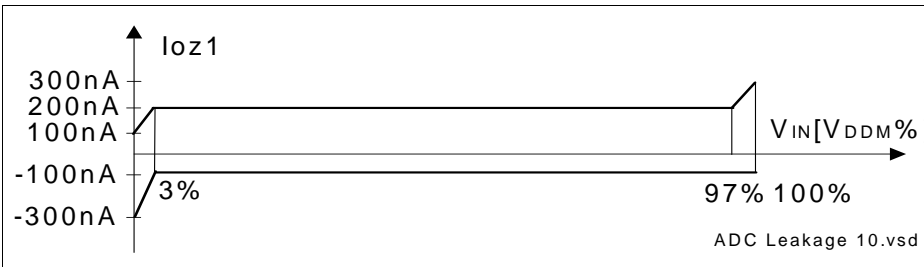

Figure 21 ADC0/ADC1 Analog Inputs Leakage
- 11) The leakage current definition is a continuous function, as shown in Figure 21. The numerical values defined determine the characteristic points of the given continuous linear approximation - they do not define step function.